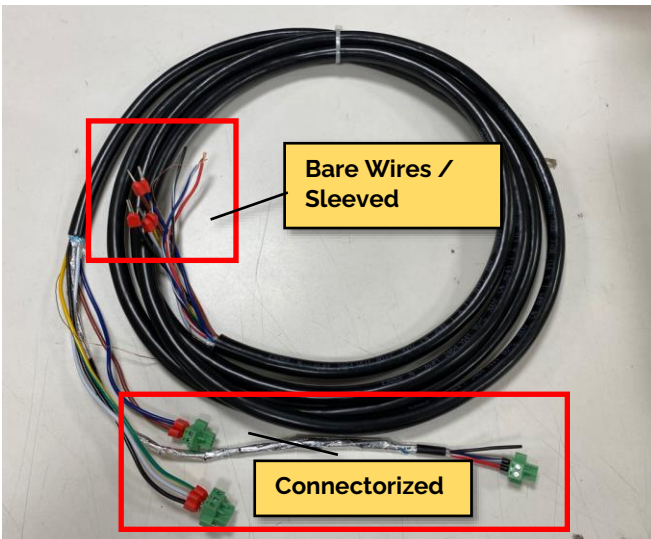

Figure 4: Complex Cable
- The complex cable connects the BDA V3 and BBU V3 is provided with BBU V3, as Figure 4 shows.